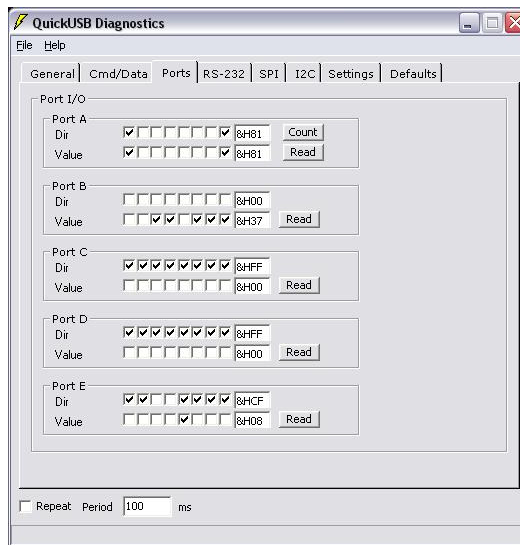

Figure 2 – Reset the FIFO Demo with the QuickUSB Diagnostics Program
- c. Under “Port A”, check Bit 7 in the “Dir” Bit Check Box Field to set PA7 as an Output (see Figure 2).
- d. Under “Port A”, check Bit 7 in the “Value” Bit Check Box Field to Drive PA7 High. This will enable power to the board (see Figure 2).
- b. Under “Port A”, check Bit 0 in the “Dir” Bit Check Box Field to turn PA0 into an output as shown in Figure 2.
- c. Under “Port A”, uncheck Bit 0 in the “Value” Bit Check Box Field to drive PA0 low and reset the logic in the FPGA. Then check Bit 0 in the “Value” Bit Check Box Field again to drive PA0 high as shown in Figure 2.